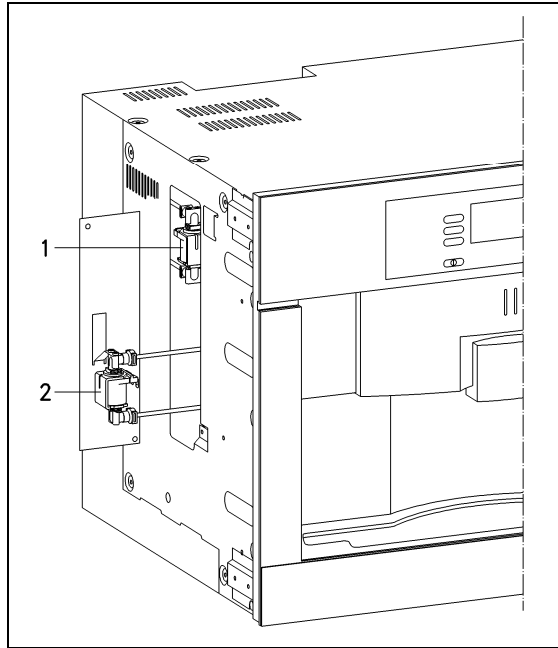

Figure 5-19: Solenoid Locations
3. The hot-water solenoid is shown at Figure 5-19, Item 2.
3. The steam solenoid is shown at Figure 5-19, Item 1.